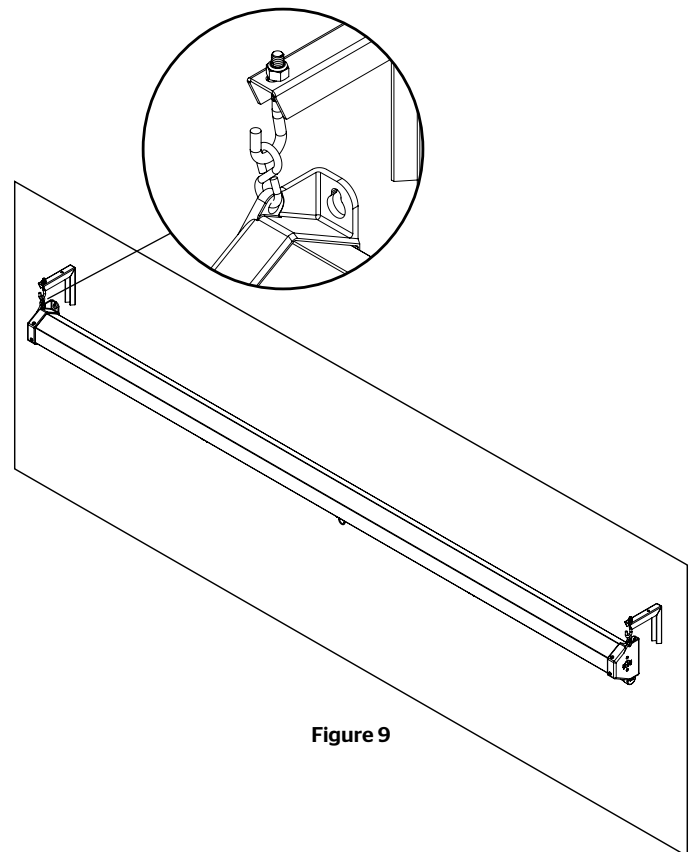

Figure 9
4. Hang screen by looping "S" hook into the open eye bolt. (See Figure 9)